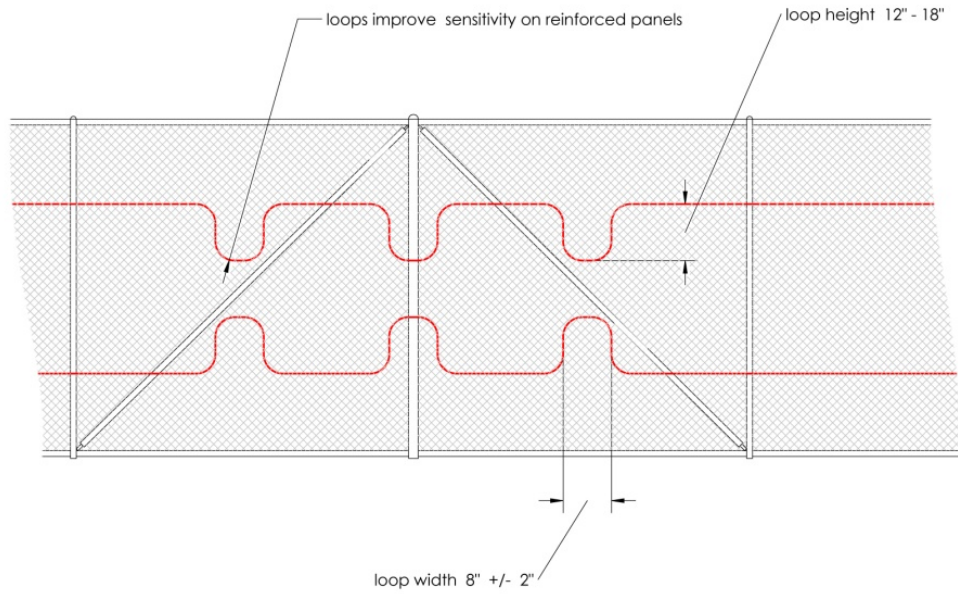

Figure 8. A loop of extra sensor cable on reinforced sections increases sensitivity.
2. Add extra loops of sensing cable to reinforced panels, as shown below in figure 8.